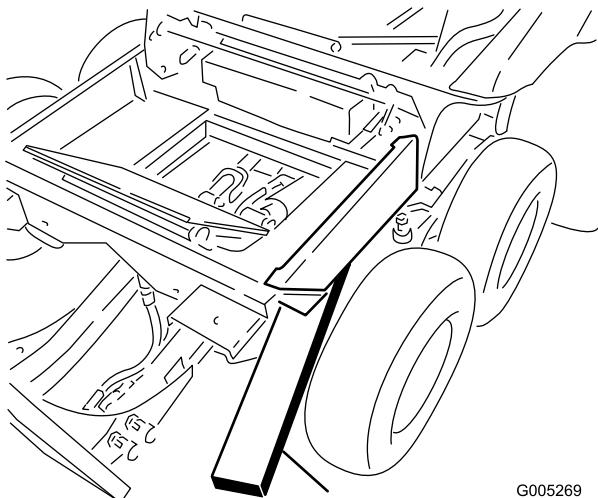

Figure 41
- 1. Insert a 2 x 4 between the front bogie stop and the frame to tilt the winter frame toward the rear (Figure 41).